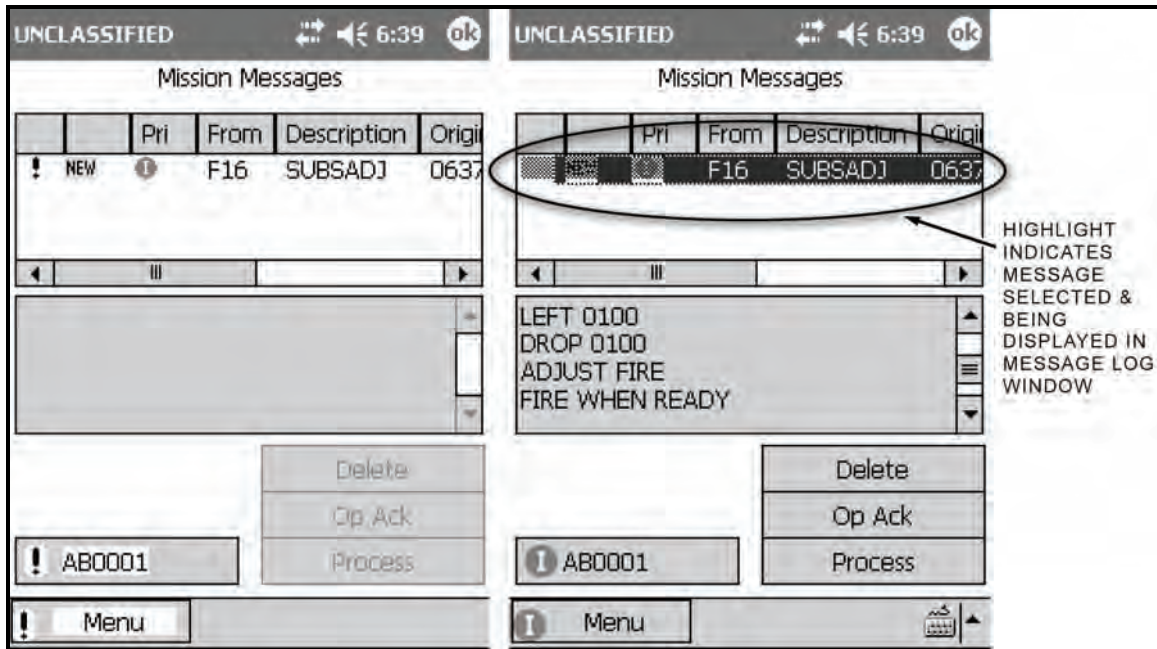

Figure 18-29. Digital Fire Mission: Mission Messages screens.
(28) Select the <Target> button.
(29) The <Target> screen displays.
(30) Select the Msn Messages button to await the first/next adjustment.
(31) The Mission Messages screen (Figure 18-29) displays.